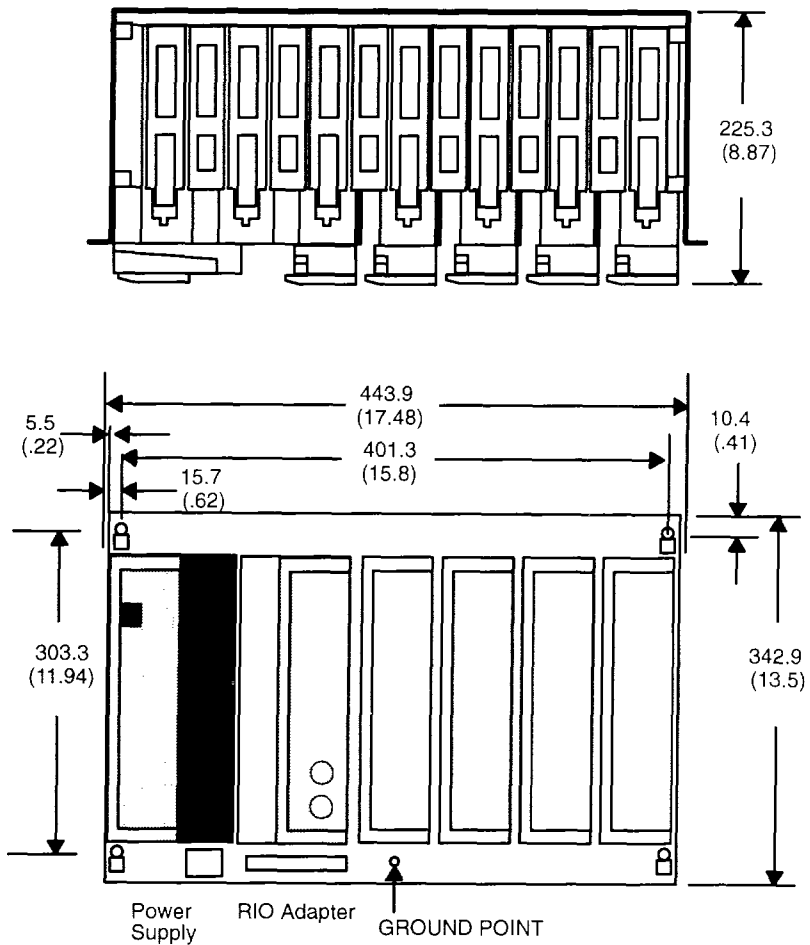
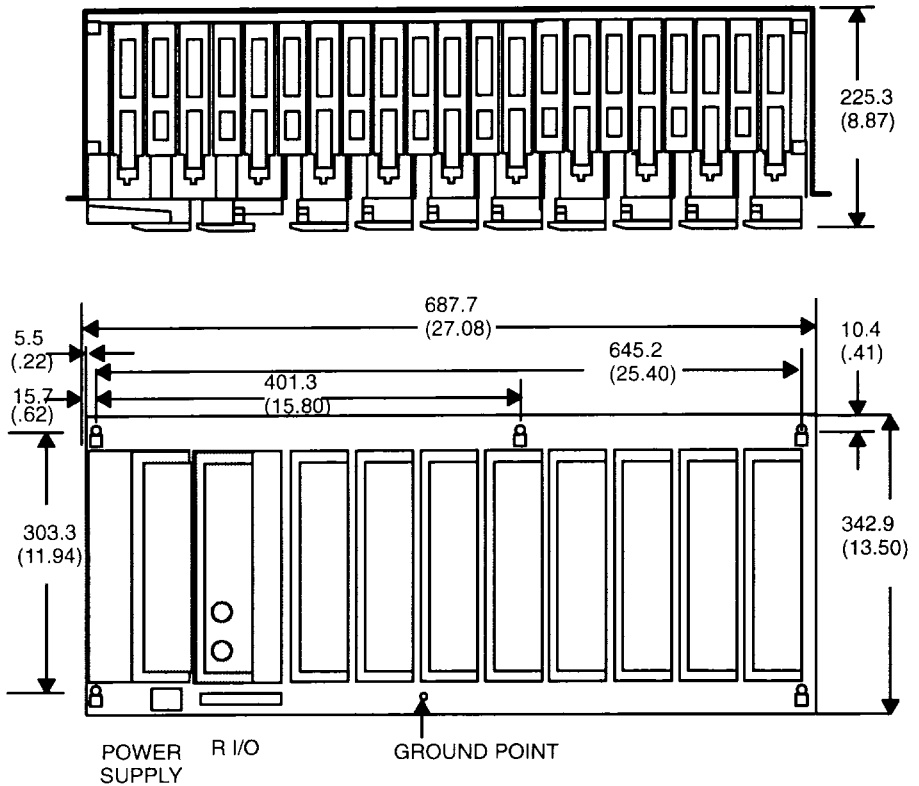

Figure 18 Remote I/O H819 Panel/Bulkhead Mounting Dimensions
Figure 19 H827 RI/O Housing Panel/Bulkhead Mounting Dimensions
As shown in Figure 18 and Figure 19 below, the housing has keyholes at the top and bottom of the housing for bulkhead mounting purposes. The keyholes are sized for 5/16-inch bolts. The recommended ground point is also shown.
- Step 3** Install 1/4 inch inserts into the panel or metal mounting surface for your primary housing as shown in Figure 18 and Figure 19.
- Step 7** Ground each W802 power cable to the housing's ground point shown earlier in Figure 18. The grounding lug requires a #10 machine screw.
- Step 9** Repeat Steps (1) thru (8) above for all remaining drops according to plan.